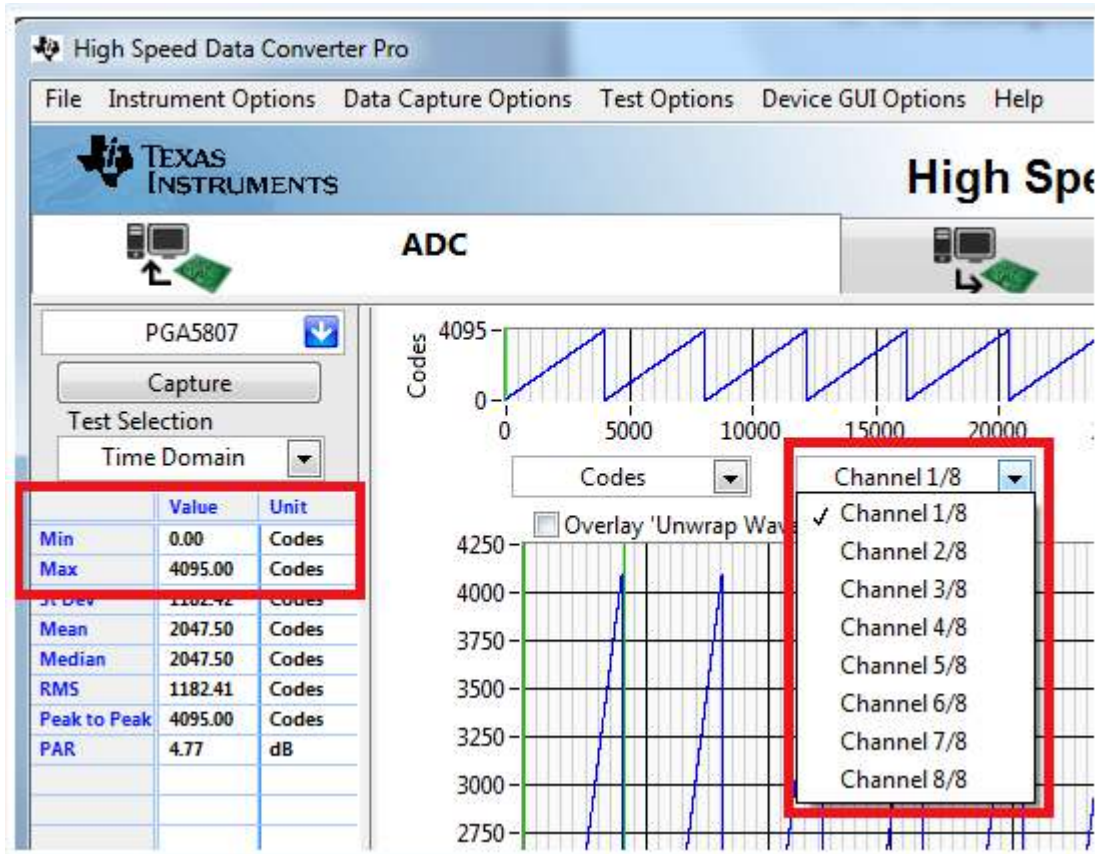

Figure 35. RAMP Capture by Channel
- By default, *Channel 1/8* is the first channel displayed. Use the drop-down menu shown in Figure 35 to view all 8 channels and confirm that a saw tooth waveform has been captured. Also confirm, in the menu to the left side, that the min code is 0 and the max code is 4095, corresponding to a 12-bit ADC.